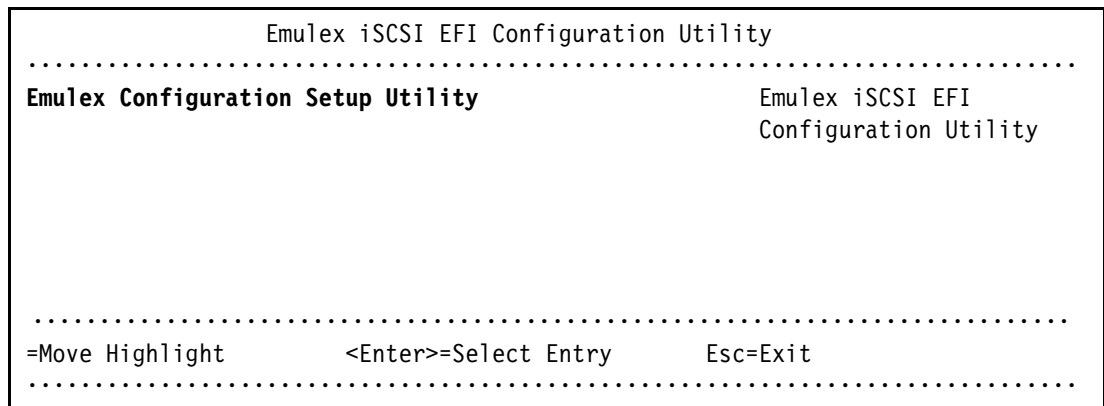

Figure 9-5 Emulex iSCSI EFI Configuration Utility panel
3. In the Emulex iSCSI EFI Configuration Utility panel (Figure 9-5), select **Emulex Configuration Setup Utility** and press Enter.